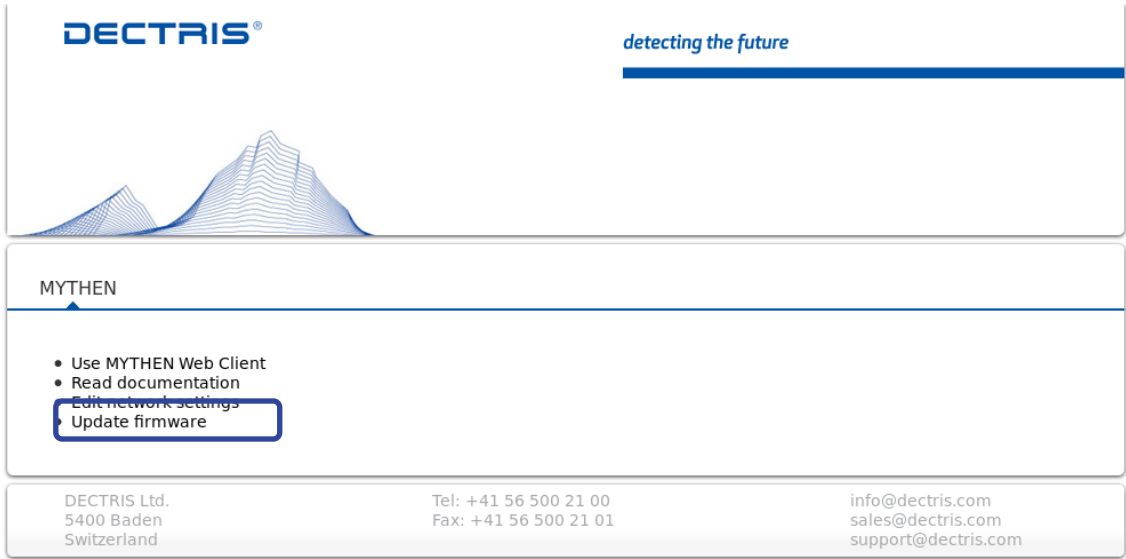

FIGURE 46: LOGIN TO THE DCS4 VIA YOUR WEB BROWSER.
3. Enter the IP address of the DCS4 system. By default the DECTRIS MYTHEN®2 systems are delivered with the IP 192.168.0.90. You should now see a screen like the one shown on **Figure 46**.